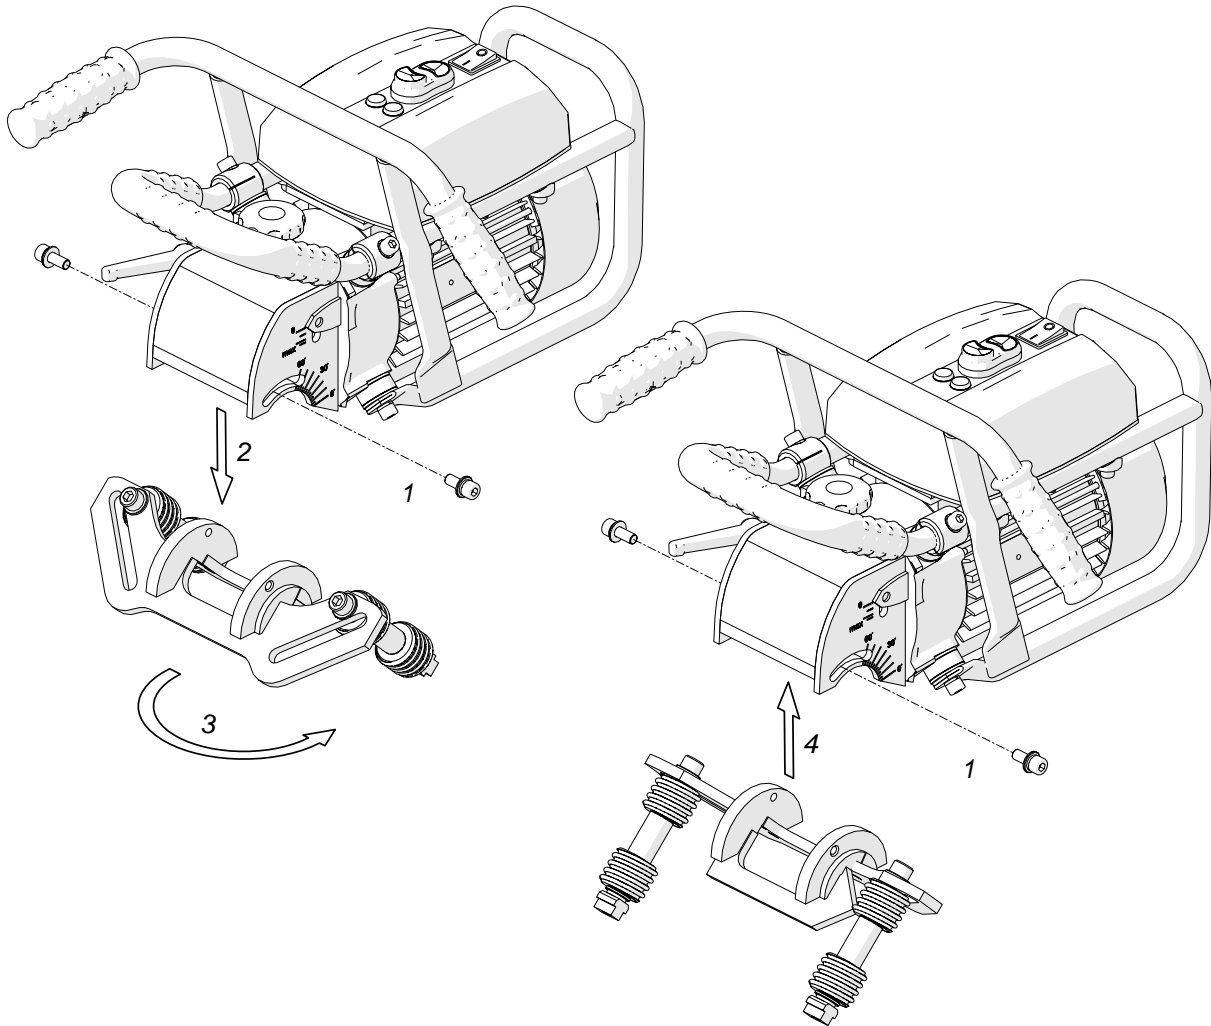
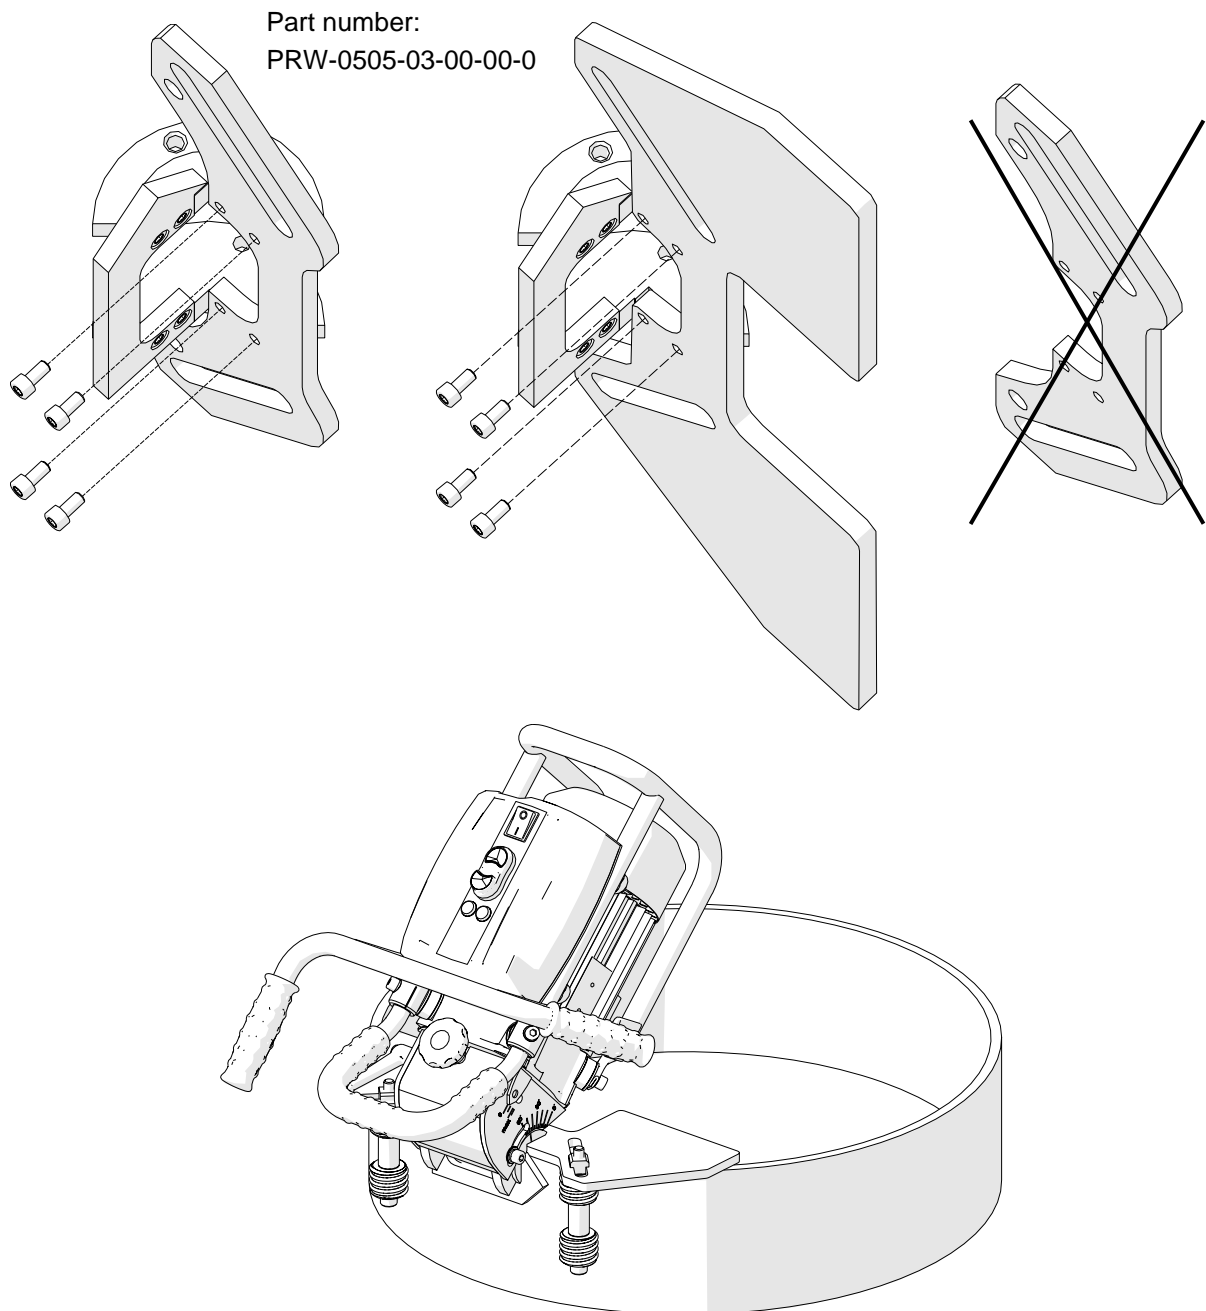

Fig. 6. Rotating and installing the guide set
Fig. 10. Machine prepared for work on pipes with diameters 300–600 mm
To bevel pipes with diameters of 150–300 mm (6–12"), assemble the standard guide set in a different way. To do this, use the 6 mm hex wrench to remove two side screws (1, Fig. 6) and remove the guide set (2). Remove the set by 180° around the vertical axis (3), install again (4), and attach with the screws (1).
To bevel pipes with diameters of 300–600 mm (10–24"), assemble the guide set by using an optional guide. To do this, remove the guide set (1, 2, Fig. 6) and use the 4 mm hex wrench to remove the standard guide. Then, assemble the guide for 300–600 mm pipes (Fig. 10) and tighten with the screws. Install the rollers and adjust the required bevel angle and width as described before.